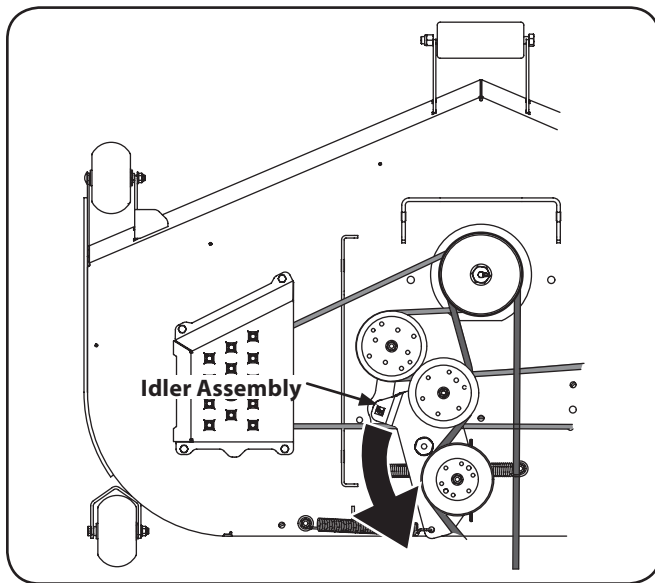

Figure 7-4
- Using a ½" drive in the idler assembly turn the wrench towards the back of the tractor and slide the belt off the PTO pulley. See Fig. 7-4.